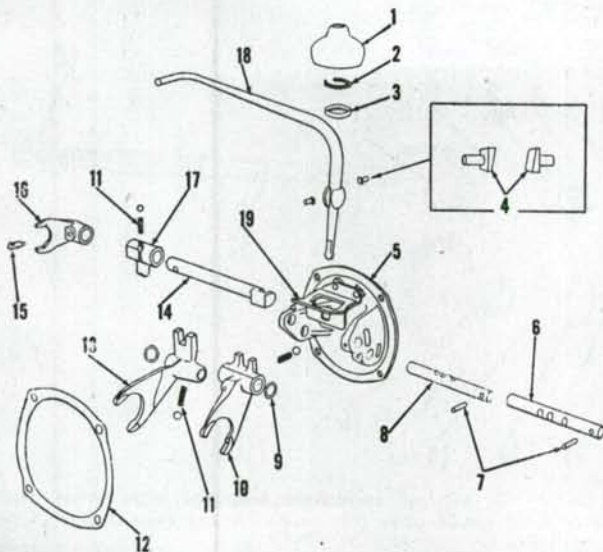

Fig. AC97—Model G transmission cover, shifter forks and rails.
214. SHIFTER FORKS. On tractors equipped with 3 speed transmissions, these parts can be renewed after removing the battery box and control cover. The gear shift lever guide pins (4) shown in Fig. AC97 are located in the transmission case and have beveled heads as shown. On 3 speed transmissions the right hand guide pin (viewed from control cover side of